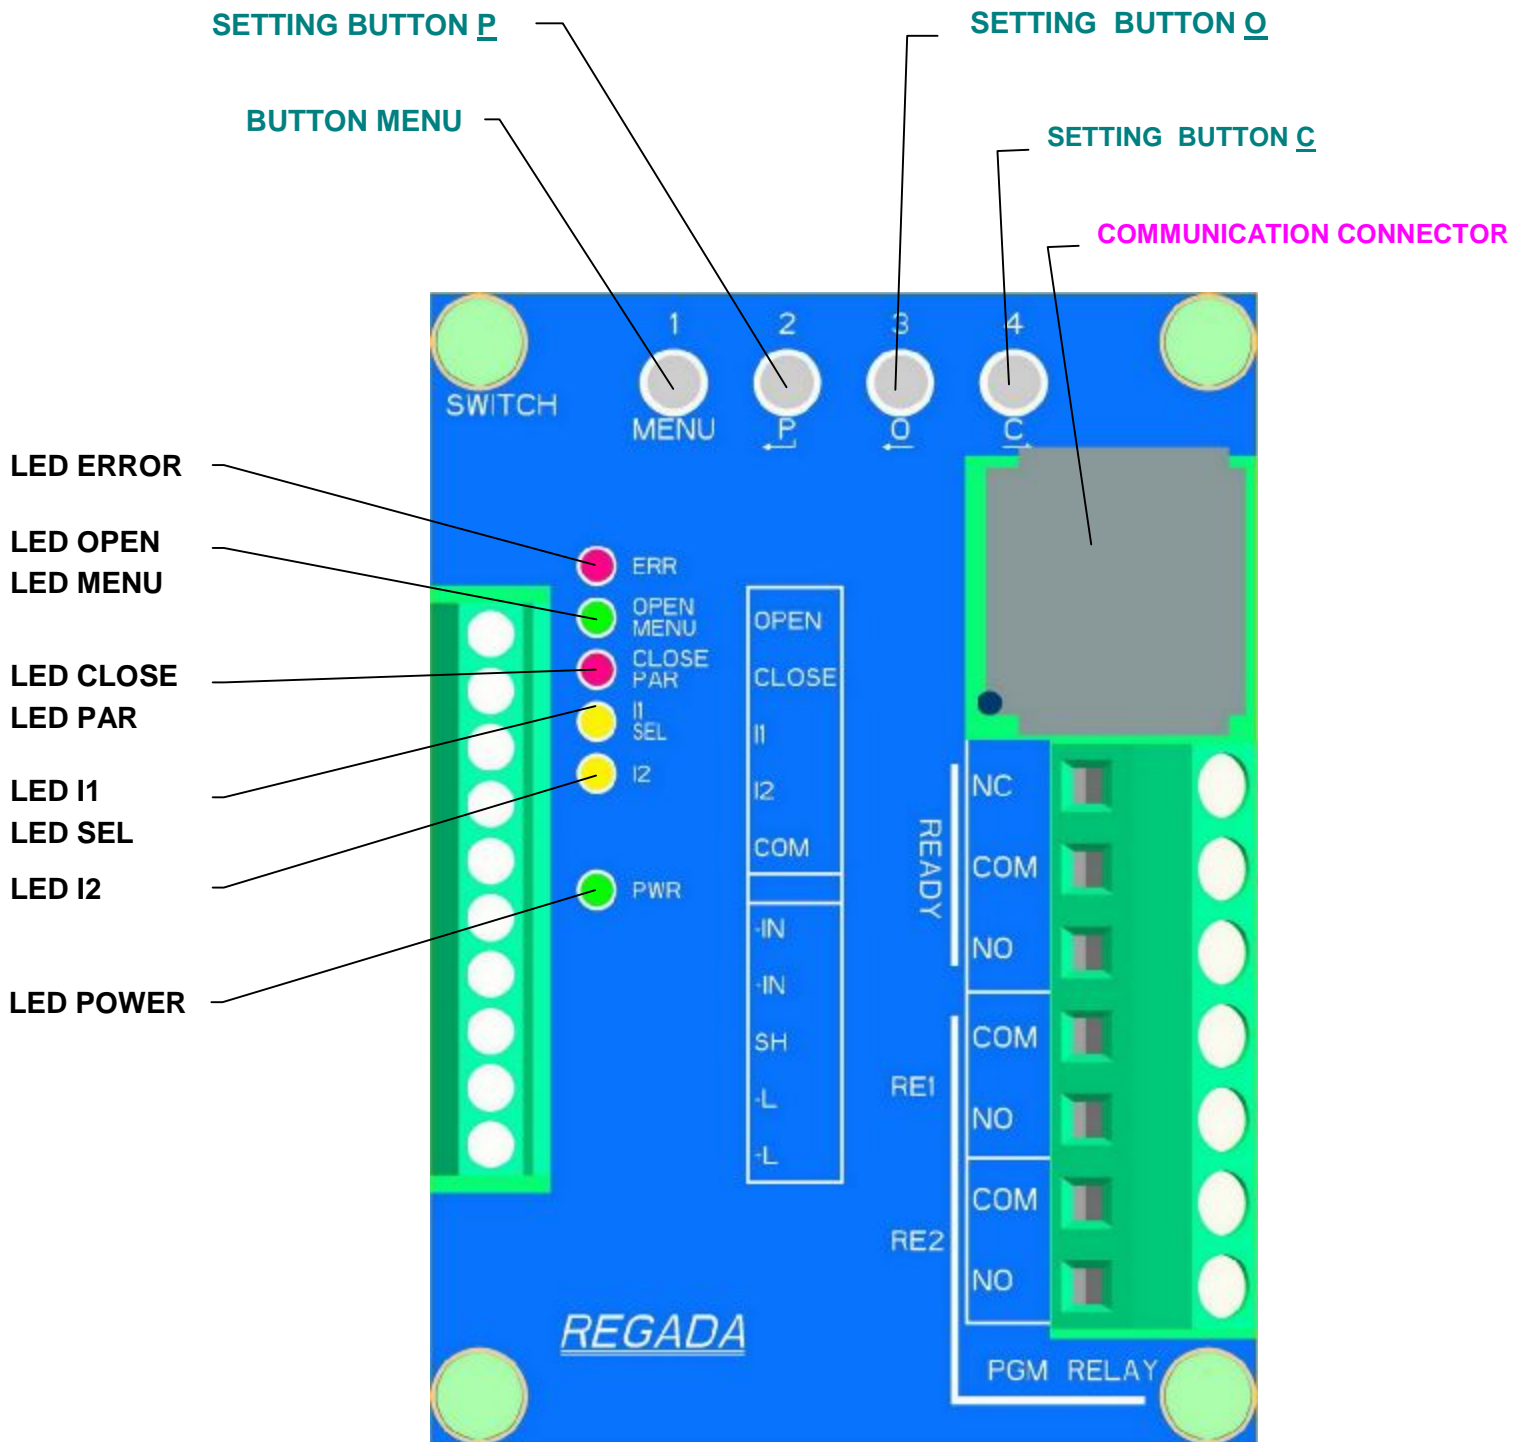

Fig. 6
The adjustment can be performed at a mechanically and electrically connected EA. This part describes adjustment of EA to specified parameters in case that any unit of EA is reset. Laying of adjusters of the control board is shown on Fig.6.
- by operating the control unit buttons (**see Fig. 6**);